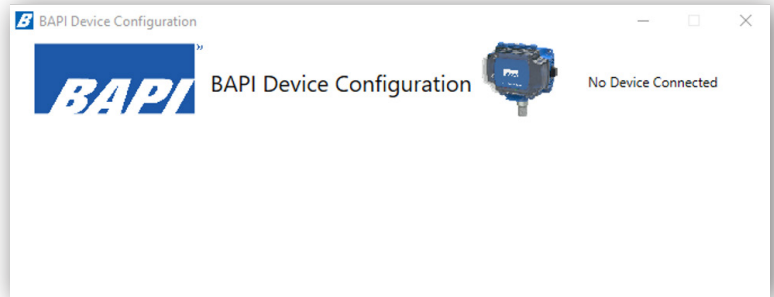

Fig. 1: Device Utility Initial Window
3. Double click file “BAPI.DeviceConfiguration.exe” to run the utility. The window at right opens (Fig 1).